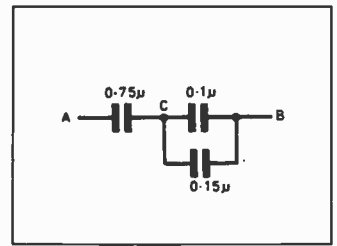

Fig. 5.12. Circuit for problem 6.
6. Three capacitors are connected as seen in Fig. 5.12. A 10V d.c. supply is connected across the points AB. What will be the steady voltage across the points AC?